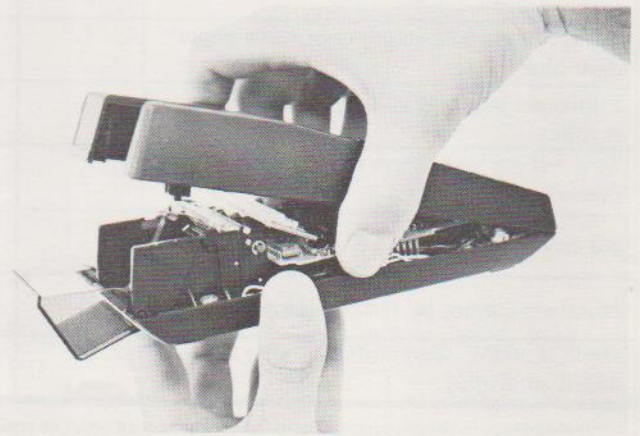

Figure 3-1. Separating Cases
- e. Hold the calculator as shown in figure 3-1, grasping the edges of the logic PCA with your thumb and middle finger. Lift the keyboard/topcase assembly, with the logic PCA connected to it, straight up from the bottom case.